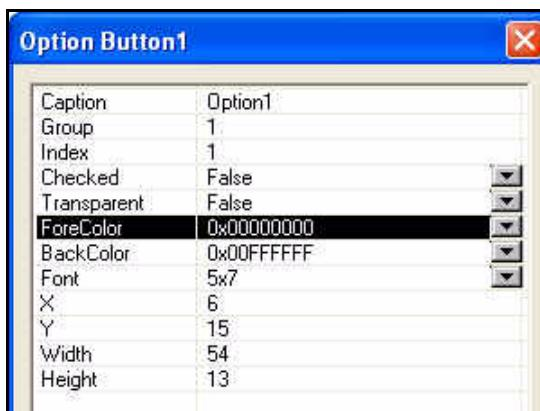

Figure 2-25 Option Button Properties Box
4. Double click the Option Button to open the Option Button properties box to configure the look and action of the button (*Figure 2-25*).